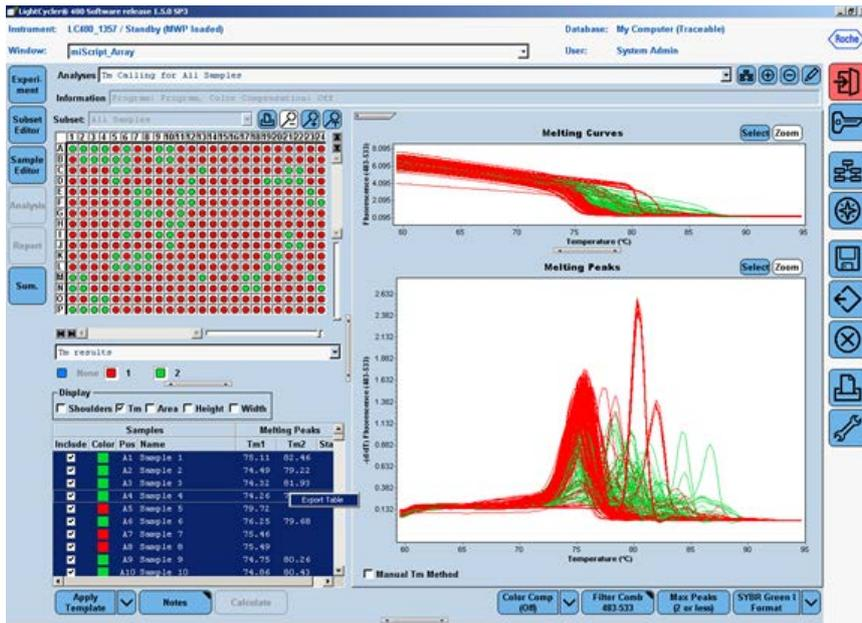

Figure 13. Exporting the melt curve data.
25. To save the melt peak values: Move the mouse over to the "Samples" window and click to highlight the result table. Right-click the "Export" button to export the data. A "Save table data" dialog box will appear (Figure 13). Enter a filename to save the data as a text file.